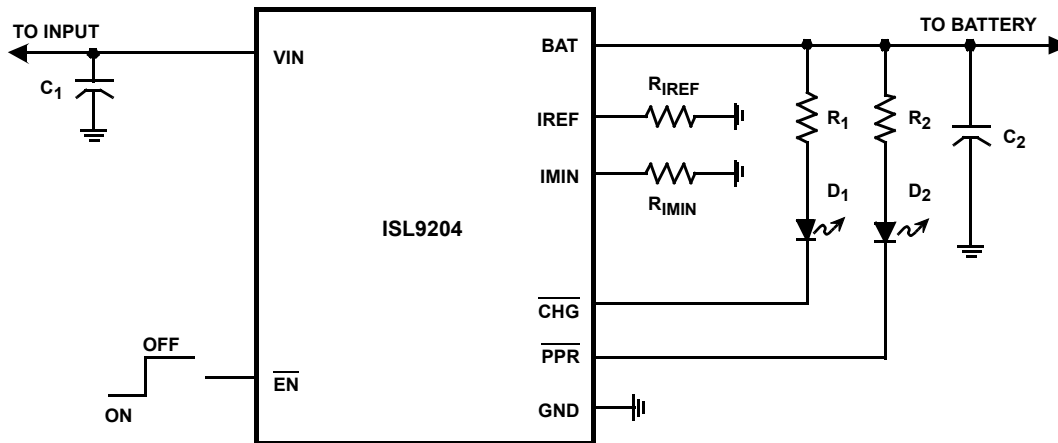
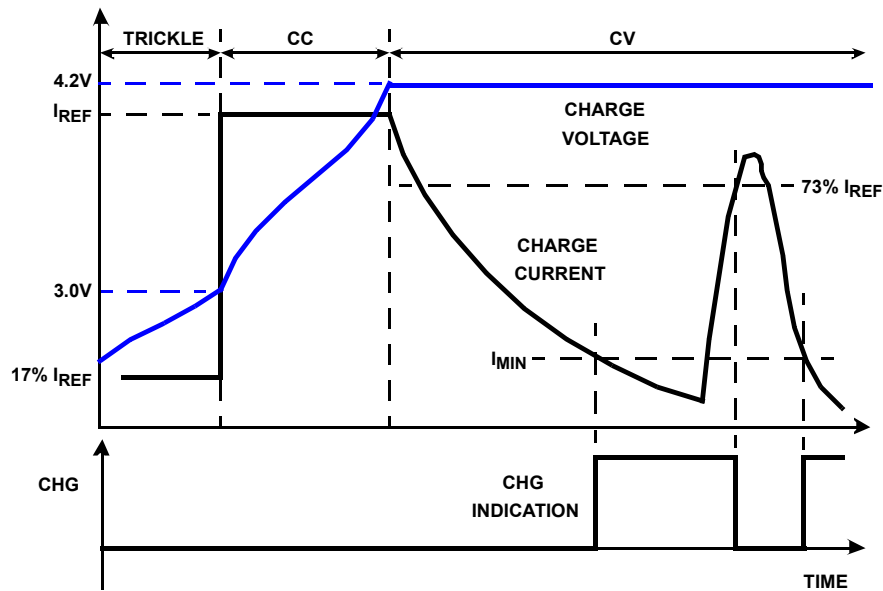

FIGURE 9. TYPICAL APPLICATION CIRCUIT INTERFACING TO INDICATION LEDES
FIGURE 12. TYPICAL CHARGE PROFILE
TABLE 1. COMPONENT DESCRIPTION FOR FIGURE 9
The ISL9204 charges a Li-ion battery with a constant current (CC) or a constant voltage (CV). The constant current I_{REF} is set with the external resistor R_{IREF} (see Figure 9) and the constant voltage is fixed at 4.2V. If the battery voltage is below a typical 2.8V trickle-charge threshold, the ISL9204 charges the battery with a trickle current until the battery voltage rises above the trickle charge threshold. When the battery voltage reaches 4.2V, the charger enters a CV mode and regulates the battery voltage at 4.2V to fully charge the battery without the risk of over charge. Upon reaching an end-of-charge (EOC) current, the charger indicates the charge completion with the CHG pin, but the charger continues to output the 4.2V voltage. Figure 12 shows the typical charge profile and the EOC/reset event.
The EOC current level I_{MIN} is programmable with the external resistor R_{IMIN} (see Figure 9). The CHG signal turns to LOW when the trickle charge starts and rises to HIGH at the EOC. After the EOC is reached, the charge current has to rise to typically 73% I_{REF} for the CHG signal to turn on again, as shown in Figure 12. The current surge after EOC can be caused by a load connected to the battery.
The PPR pin can be used to drive an LED (see Figure 9) or to interface with a microprocessor.